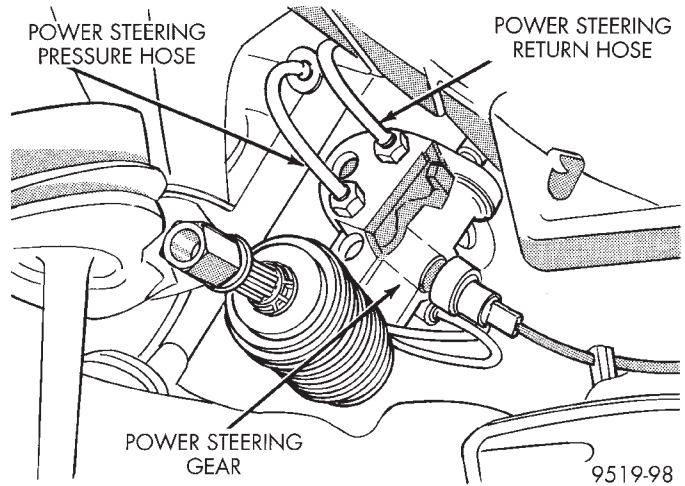

Fig. 9 Power Steering Hose Connections At Steering Gear
(2) Lower the front suspension crossmember far enough to gain access to the high and low pressure ports on the steering gear.
(3) Disconnect the power steering pressure hose (Fig. 9) at the power steering gear. Drain power steering fluid from power steering pump and hose through open end of hose.